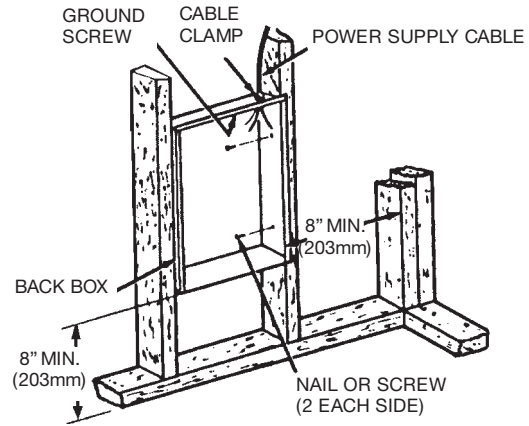

Figure 1: Locating Recessed Back Box in New Construction
1. Mounting Back Box (see Figure 1).
- c. Secure the back box in position with wood screws or nails as shown in Figure 1.
2. Power Supply Wiring (see Figure 1)